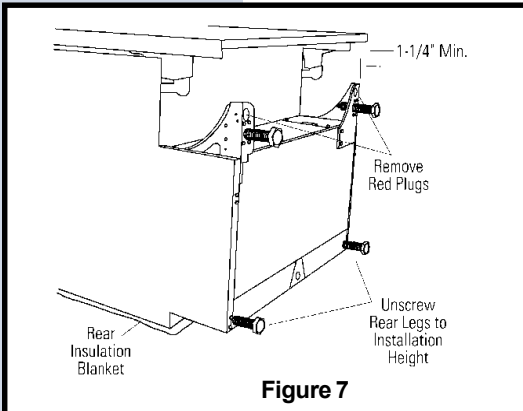

Figure 7
- 2 Install the leveling legs into the holes below the red plugs. Use the spanner wrench to screw the legs in until the overall height of the dishwasher is 1/4" less than the installation opening height. **See Figure 7.**